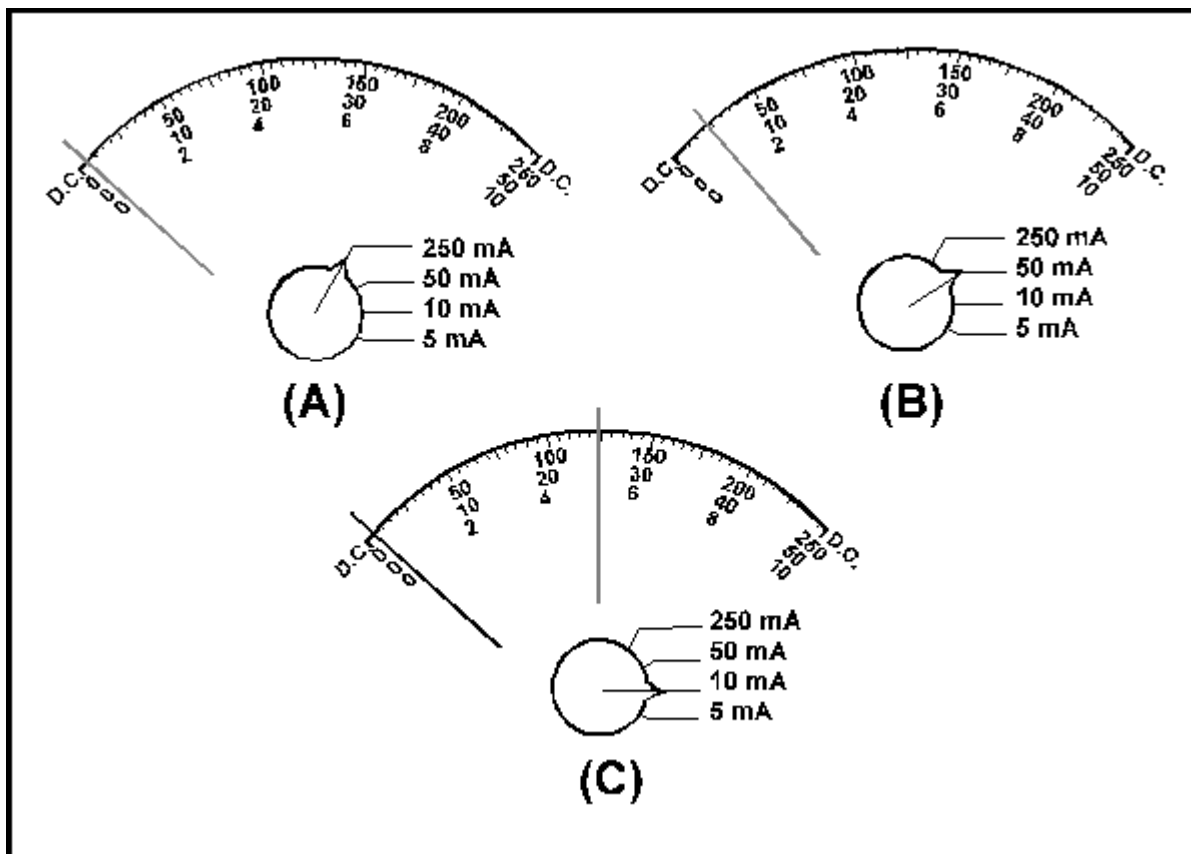

Figure 1-24.—Reading an ammeter at various ranges.
Part of the correct use of an ammeter is the proper use of the range selection switch. If the current to be measured is larger than the scale of the meter selected, the meter movement will have excessive current and will be damaged. Therefore, it is important to always start with the highest range when you use an ammeter. If the current can be measured on several ranges, use the range that results in a reading near the middle of the scale. Figure 1-24 illustrates these points.
Figure 1-24(A) shows the initial reading of a circuit. The highest range (250 milliamperes) has been selected and the meter indication is very small. It would be difficult to properly interpret this reading with any degree of accuracy. Figure 1-24(B) shows the second reading, with the next largest range (50 milliamperes). The meter deflection is a little greater. It is possible to interpret this reading as 5 milliamperes. Since this approximation of the current is less than the next range, the meter is switched as
shown in figure 1-24(C). The range of the meter is now 10 milliamperes and it is possible to read the meter indication of 5 milliamperes with the greatest degree of accuracy. Since the current indicated is equal to (or greater than) the next range of the ammeter (5 milliamperes), the meter should NOT be switched to the next range.